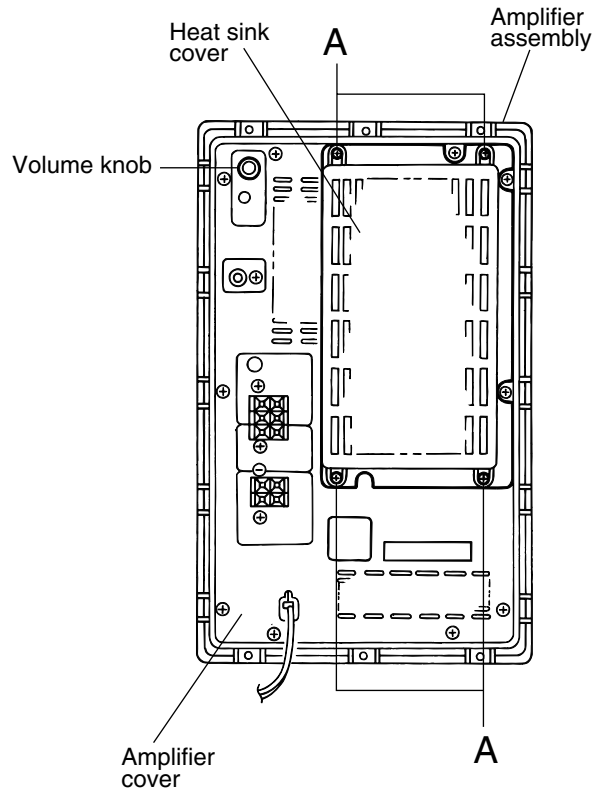

Fig.1
■ Removing the heat sink cover (See Fig.1)